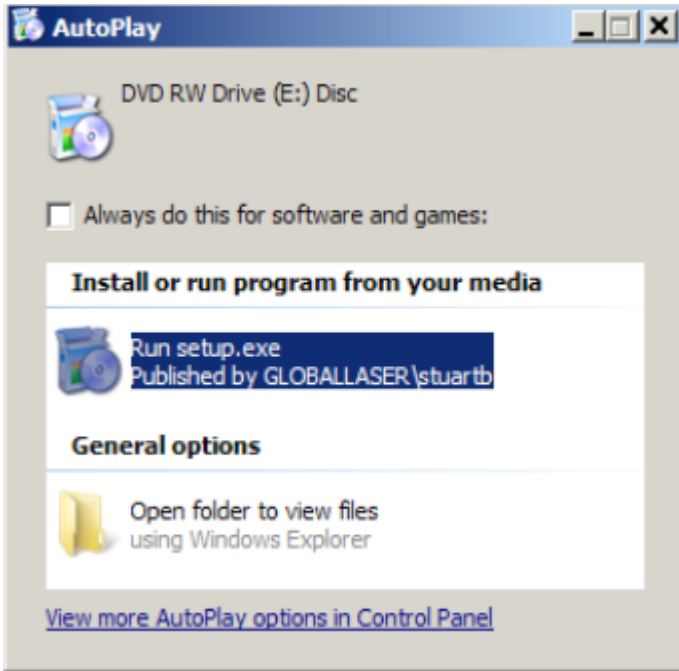

Figure 1
- With AutoPlay enabled the setup program will run similar to Figure 1. If the Autoplay does not run refer to section 6.3.1